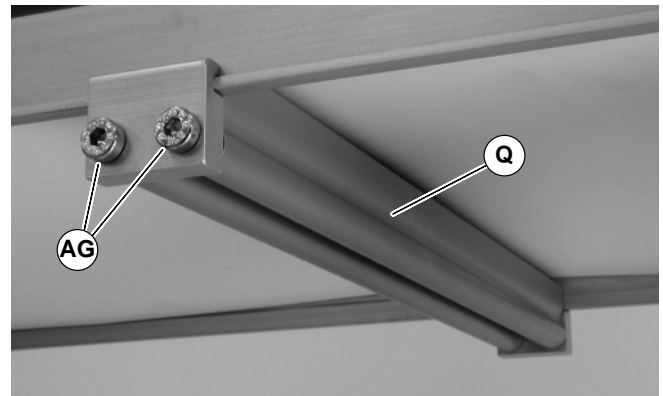

Figure 14
3. Install roller assembly as shown (Q of Figure 14). Tighten screws (AG) to 60 in-lb (7 Nm).